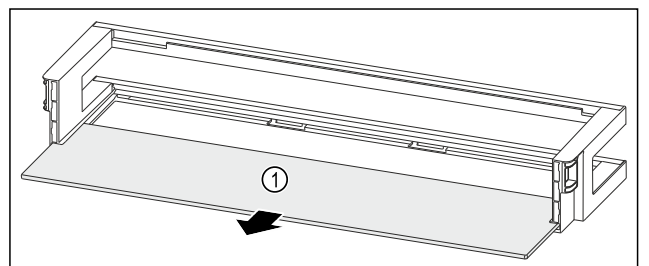

Fig. 197 Door rack with shelf
- ▶ Remove the shelf Fig. 197 (1).